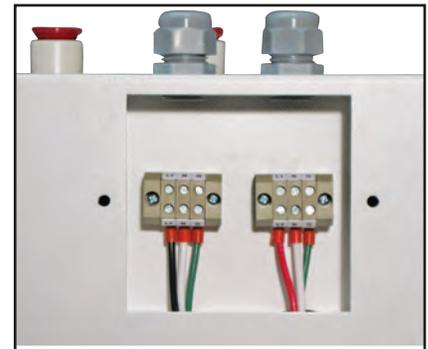

Figure 44
1. Route and insert three 120 VAC power source wires into the terminal block access area through the appropriate port's cable clamp fitting and into the proper terminal. Reference Appendix A and Figure 44.